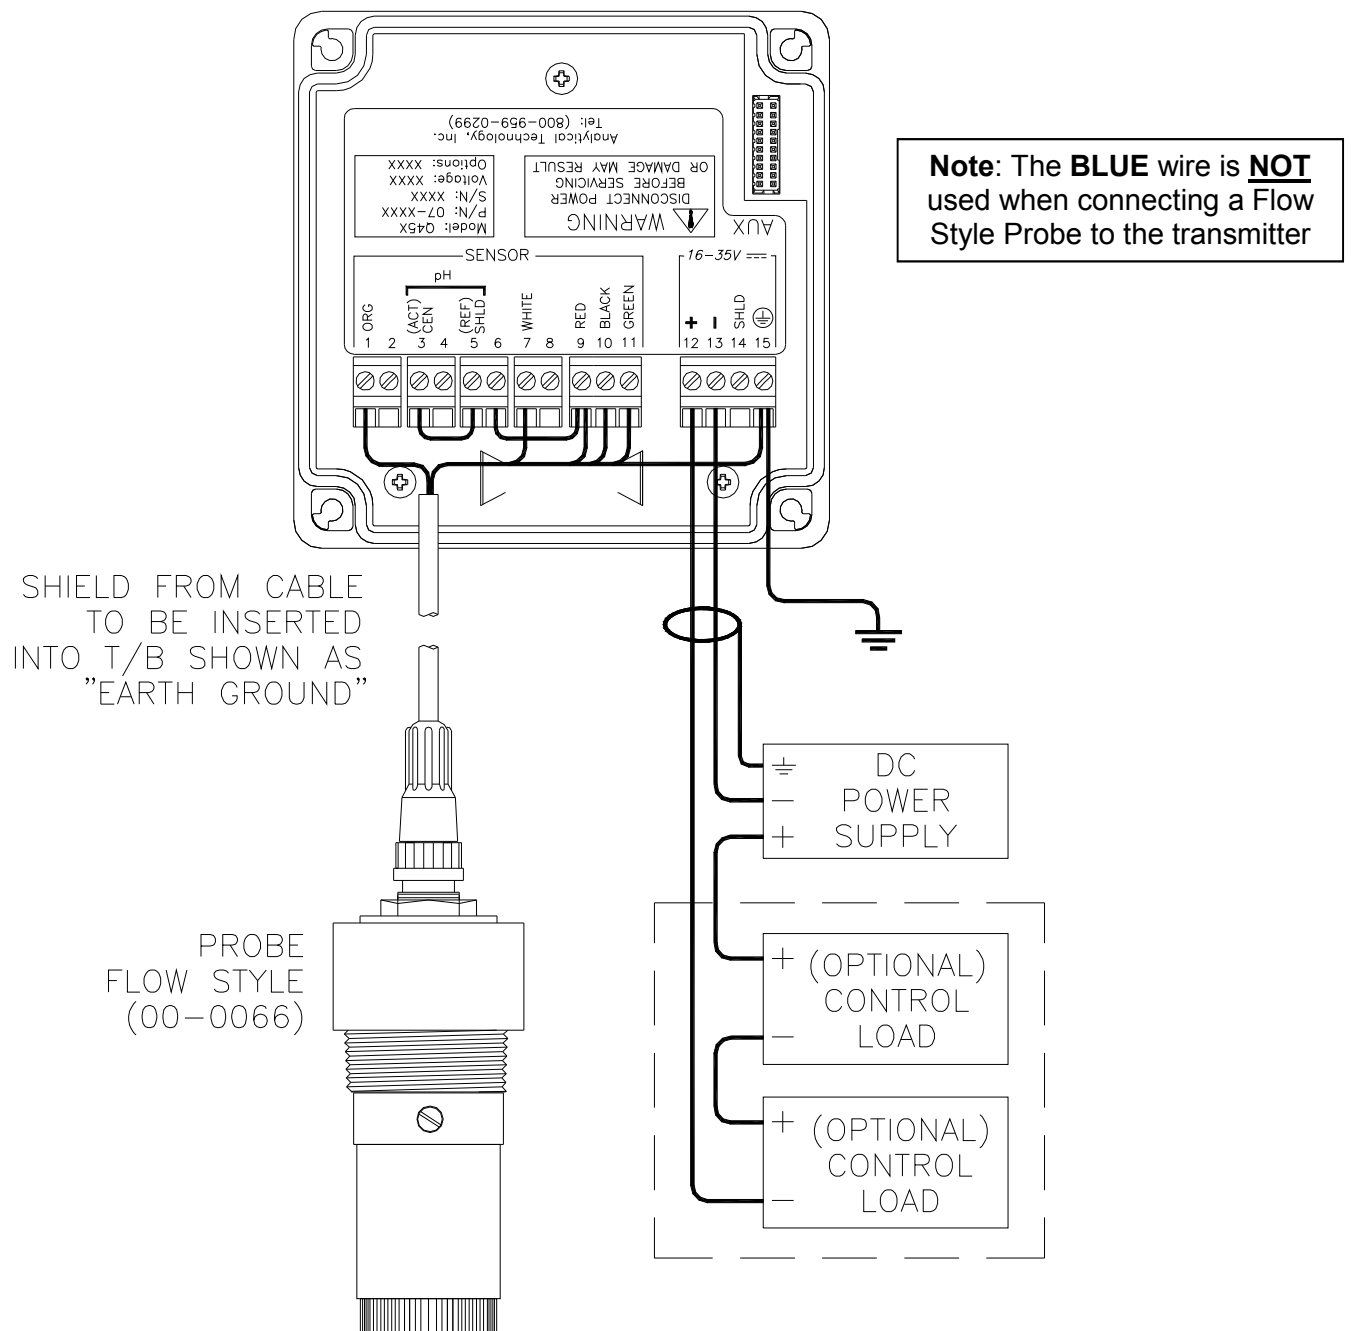
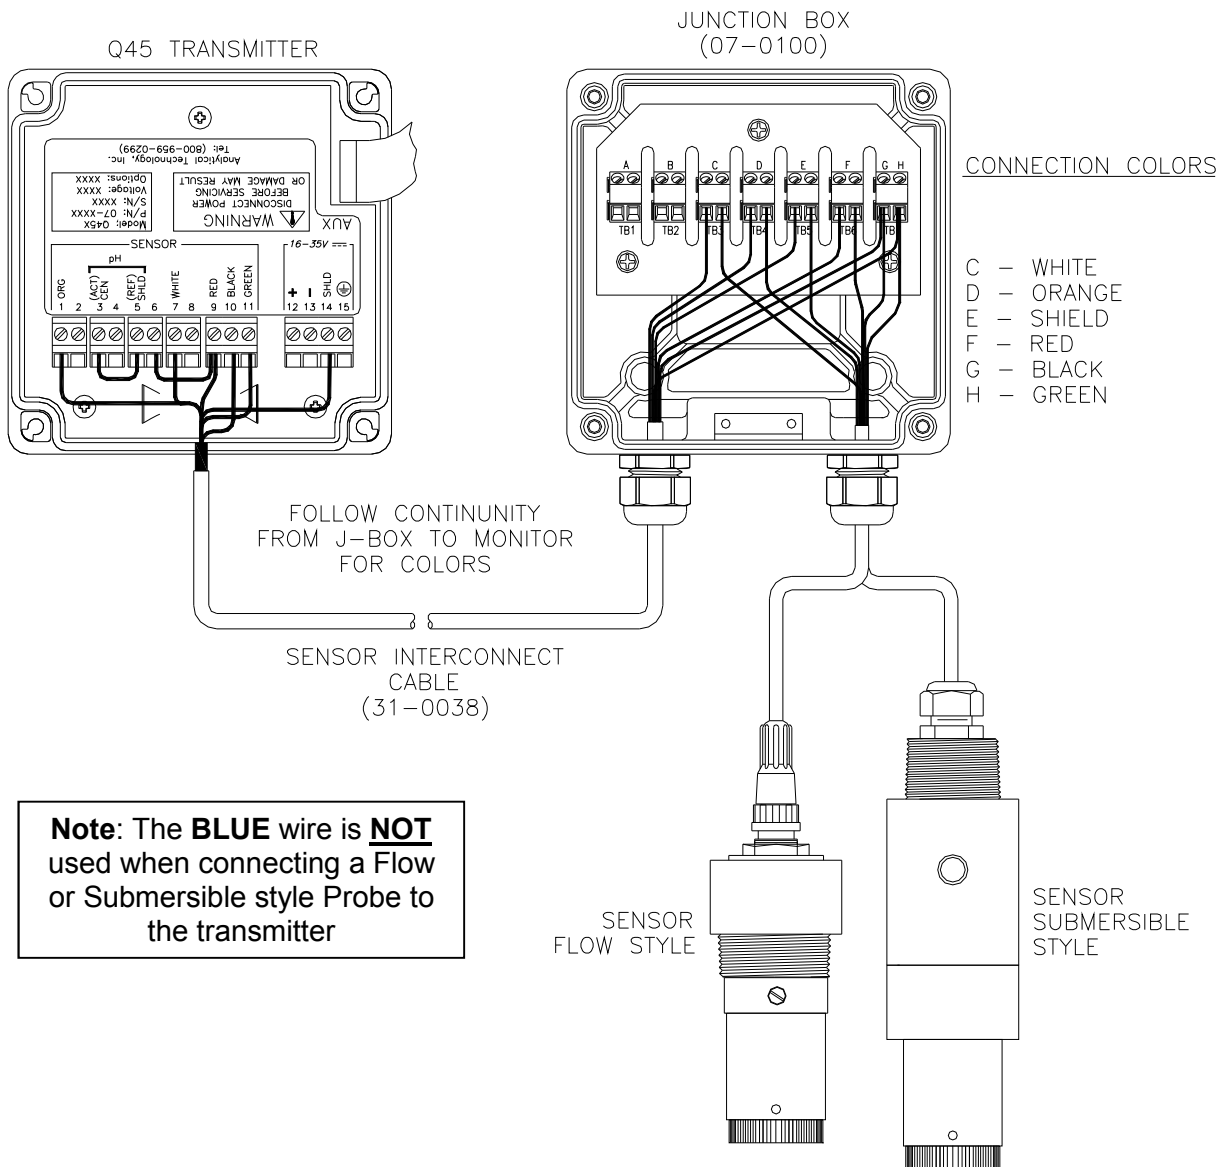

Figure 11 - Loop Power Sensor Connection
Figure 13 - Junction Box Interconnect Wiring
1. Use wiring practices that conform to all national, state and local electrical codes. For proper safety as well as stable measuring performance, it is important that the earth ground connection be made to a solid ground point from terminal 15 (Figure 11).
In the two-wire configuration, a separate DC power supply must be used to power the instrument. The exact connection of this power supply is dependent on the control system into which the instrument will connect. See Figure 11 for further details. Any twisted pair shielded cable can be used for connection of the instrument to the power supply. Route signal cable away from AC power lines, adjustable frequency drives, motors, or other noisy electrical lines. Do not run sensor or signal cables in conduit that contains AC power lines or motor leads.
Sensor connections are made in accordance with Figure 11 or Figure 13. The sensor cable can be routed into the enclosure through one of cord-grips supplied with the unit. Routing sensor wiring through conduit is only recommended if a junction box is to be used. Some loose cable is needed near the installation point so that the sensor can be inserted and removed easily from the flowcell.
Installations where the sensor is to be located more than 25 feet from the monitor (max. 100 feet) require the use of a junction box. The junction box is shown in Figure 13 and is supplied with two cable glands on the bottom of the enclosure.